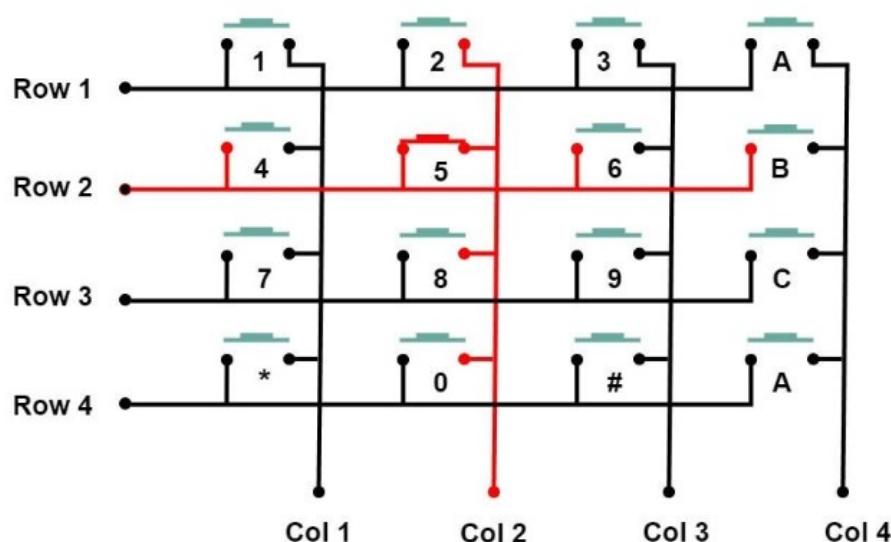

Figure 2.6: 4x4 matrix keypad diagram
- When a button is pressed, it connects a row to a column, allowing the microcontroller to detect the specific key that was pressed by checking which row and column are connected (Figure 2.6).